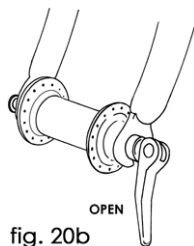
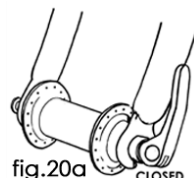

fig. 20b
fig. 20a
(2) Move the wheel's quick-release lever from the locked or CLOSED position to the OPEN position (figs. 20a & b).
(3) If your front fork does not have a secondary retention device go to step (5).
(4) If your front fork has a clip-on type secondary retention device, disengage it and go to step (5). If your front fork has an integral secondary retention device, loosen the tension adjusting nut enough to allow removing the wheel; then go to the next step.
(5) Raise the front wheel a few inches off the ground and tap the top of the wheel with the palm of your hand to knock the wheel out of the fork.
(1) Move the quick-release lever so that it curves away from the wheel (fig. 20b). This is the OPEN position.
(2) With the steering fork facing forward, insert the wheel between the fork blades so that the axle seats firmly at the top of the slots which are at the tips of the fork blades — the fork dropouts. The quick-release lever should be on the left side of the bicycle (fig. 20a & b). If your bike has a clip-on type secondary retention device, engage it.
(3) Pull the derailleur body back with your right hand.
(4) Move the quick-release lever to the OPEN position (fig. 20b).
(5) Lift the rear wheel off the ground a few inches and, with the derailleur still pulled back, push the wheel forward and down until it comes out of the rear dropouts.
(1) Shift the rear derailleur to its outermost position
(2) Pull the derailleur body back with your right hand.
(3) Move the quick-release lever to the OPEN position (see fig. 20a & b). The lever should be on the side of the wheel opposite the derailleur and freewheel sprockets.
(4) Put the chain on top of the smallest freewheel sprocket. Then, insert the wheel into the frame dropouts and pull it all the way in to the dropouts.
(5) Tighten the quick-release adjusting nut until it is finger tight against the frame dropout; then swing the lever toward the front of the bike until it is parallel to the frame's chainstay or seatstay and is curved toward the wheel (fig. 20b). To apply enough clamping force, you should have to wrap your fingers around a frame tube for leverage, and the lever should leave a clear imprint in the palm of your hand.
(6) If the lever cannot be pushed all the way to a position parallel to the chainstay or seatstay tube, return the lever to the OPEN position. Then turn the adjusting nut counterclockwise one-quarter turn and try tightening again.
(7) Push the rear derailleur back into position.
(8) Re-engage the brake quick-release mechanism to restore correct brake pad-to-rim clearance; spin the wheel